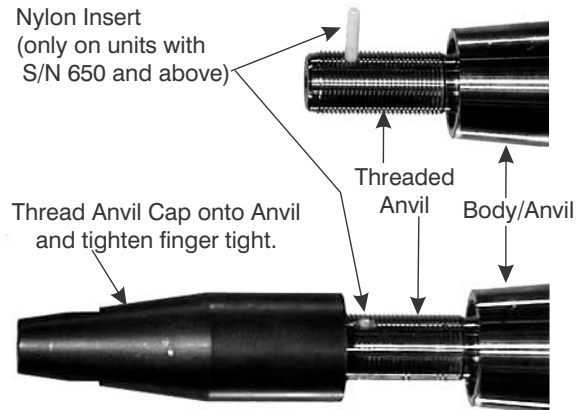

Figure 9-53. Secure Anvil/Cap to Body/Anvil
2. On Hole-Hogs numbered 650 and above, there is a hole in the Threaded Anvil for insertion of a Nylon Insert (3) as shown in Figure 9-53. Refer to section 8.3.3 for details.
Insert the Nylon Insert (3) as shown in Figure 9-53.
3. Thread the Anvil Cap (24) onto the Body/Anvil (1) hand tight.